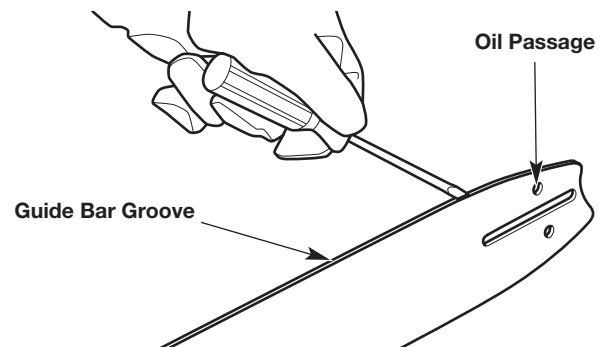
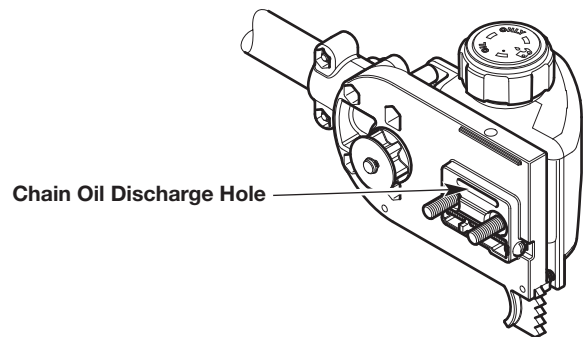

Fig. 18
Fig. 19
2. Clean the guide bar groove and oil passages whenever the saw chain is removed, when the unit has been used heavily or when the saw chain appears dirty. Use a screwdriver, putty knife, wire brush or similar instrument to remove debris from the guide bar groove (Fig. 18). Use a small, soft wire to remove any debris from the chain oil discharge hole (Fig. 19).